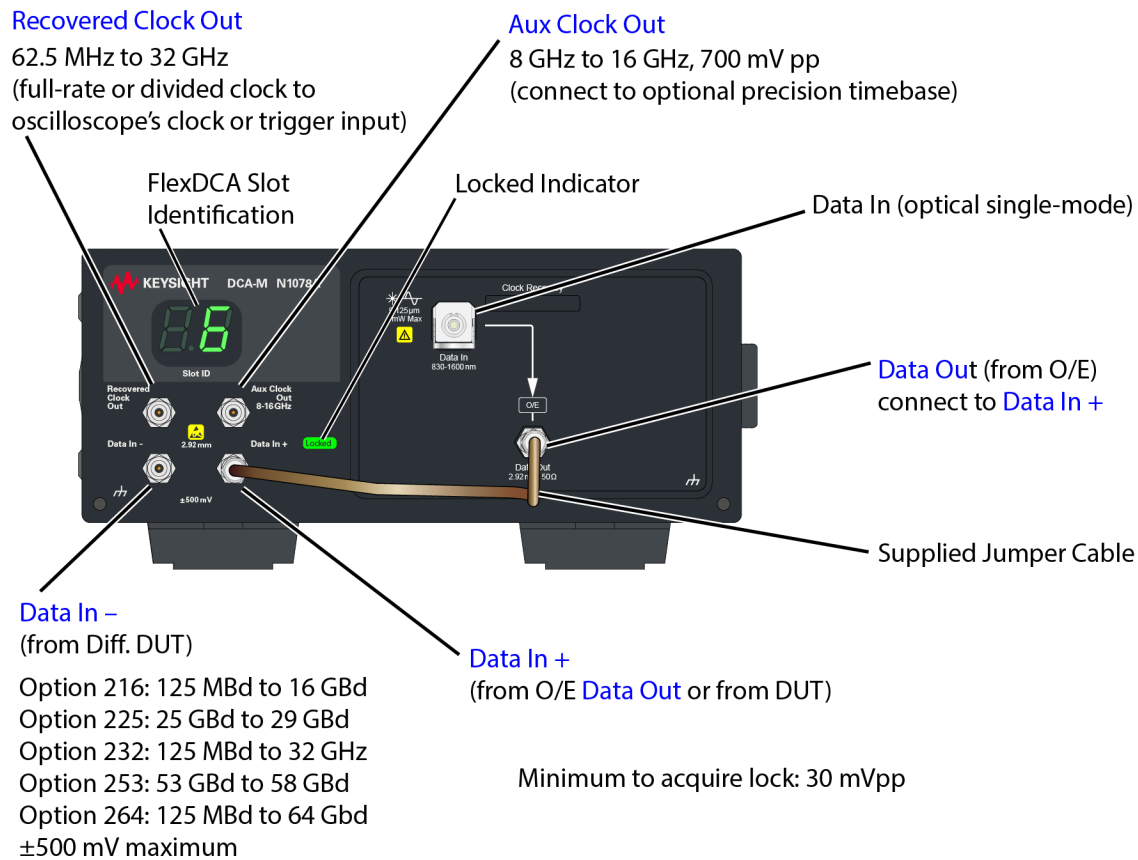
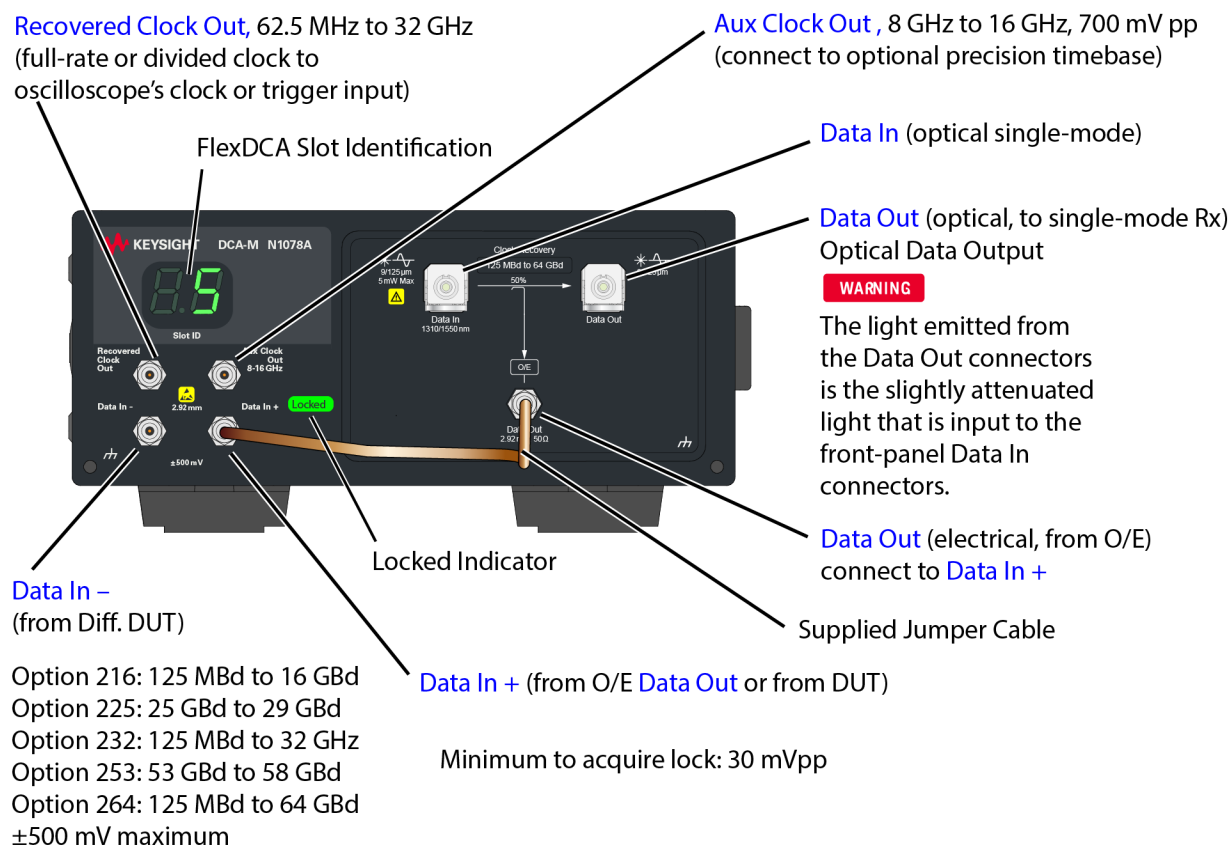

Figure 56. N1078A-SXT Front-Panel Connectors
Figure 57. N1078A- S50 Front-Panel Connectors
Figure 56 on page 107 and *Figure 57 on page 108* show the N1078A-SXT and N1078A-S50 module front-panels. Both model options have single-mode optical connectors. Option SXT modules do not have an internal optical splitter. Option S50 models include an internal optical splitter (50%). The optical internal splitter provides a slightly attenuated input signal at the optical **Data Out** connectors. This output can be used for input to a receiver module or other test equipment.
1. Confirm that the input signal meets the baud rate and amplitude requirements shown in *Figure 57 on page 108*. In this procedure, the following assumptions are made for simplicity. You can change these parameters to any acceptable values.